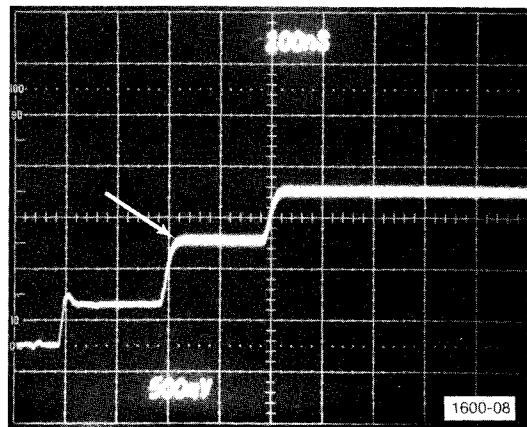

Fig. 2-10. TP50 Waveform on P7001 A-D Converter card showing correct adjustment of MSB Comp C70.
k. Use the RIGHT VERT amplifier Position control to move the DPO trace down slightly from graticule center. The test oscilloscope display should resemble Fig. 2-10. Change RIGHT VERT amplifier Position control as necessary.
1. CHECK - The front corner of the step indicated in Fig. 2-10. It should match the waveform in Fig. 2-10 at the point indicated.
m. ADJUST - MSB Comp C70 (Fig. G-4) to match Fig. 2-10.